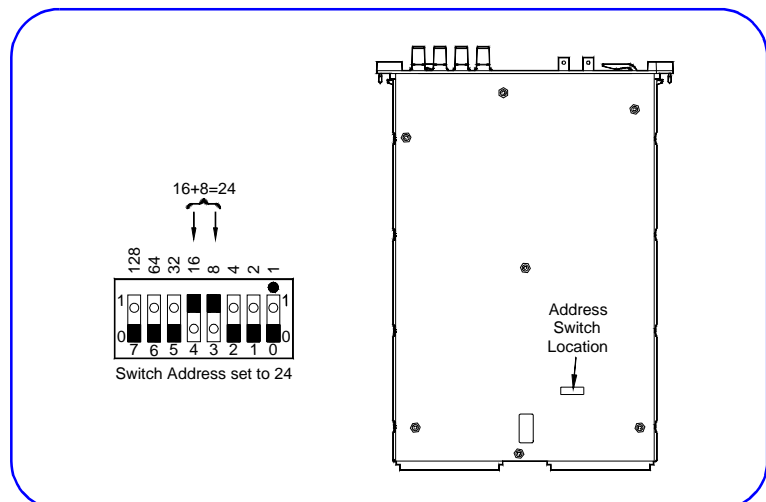

Figure 12. Example: HP E1411B Logical Address Switch
- The logical address for each VXI instrument is set by the Logical Address (LADDR) switch on the instrument. The logical address value is the sum of the values of the logical address switches set to the closed position (see Figure 12).
Figure 12 shows an HP E1411B multimeter with the Logical Address switch set to 24. Since switch 3 (logical value = 8) and switch 4 (logical value = 16) are both closed, the sum of the logical values (24) is the logical address for the HP E1411B. See the *HP E1326B/E1411B User's Guide* for details.